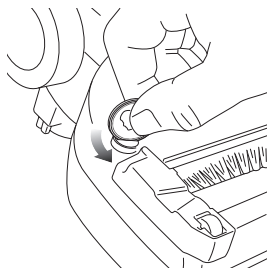
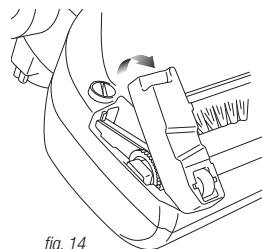

fig. 13
fig. 14
- 1 For easier cleaning, the brush roll can be removed from the nozzle. Using a coin, turn the dial next to the brush roll access door to the unlock position. (fig. 13) Remove the brush roll access door. (fig. 14)